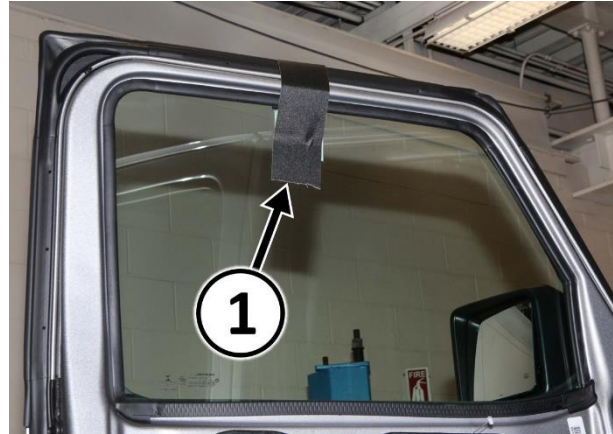

Figure 9 – Secure Window Glass
16. By hand, raise the door glass to the full up position then secure the window glass into place with a wedge or tape (Figure 9).